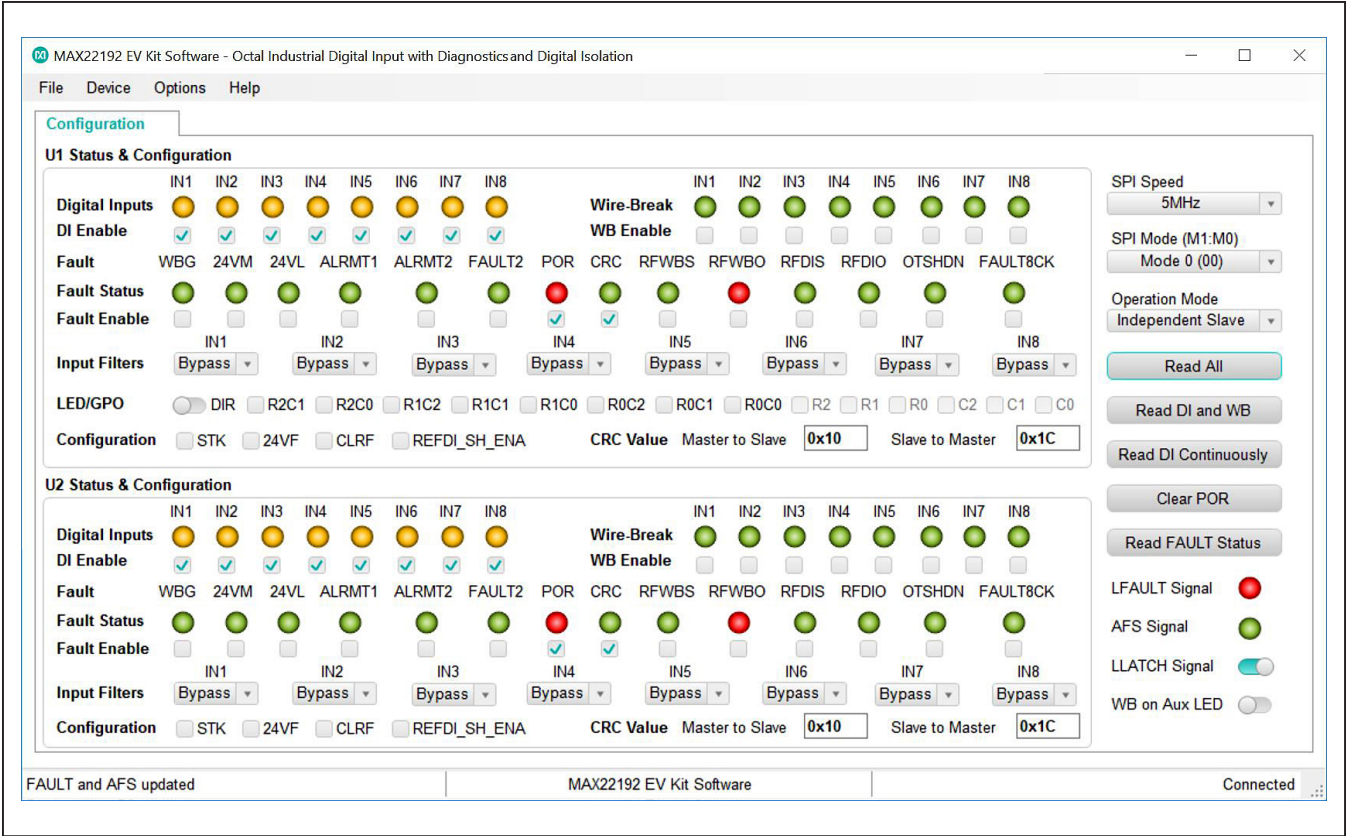

Figure 2. MAX22192 EV Kit Software Startup Window
- 11) Once the hardware is ready to use, launch the EV kit software by opening its icon in the **Start | Programs** menu. During the EV kit software launch, two message boxes are shown to indicate the default operation mode (independent slave mode), and U1 and U2 SPI Mode (Mode 0). Click **OK** to close the message boxes. The EV kit software appears as shown in Figure 2.
When the MAX22192 EV kit software starts, it automatically detects if the EV kit is connected to a PC and indicates it in the status bar at the bottom edge of the GUI. If the software does not recognize the USB2PMB2# adapter board, make sure that the software and all drivers are properly installed, check the USB connection, and go to the **Device** menu and select the **Search for Hardware** option. When the EV kit is properly connected, the MAX22192 (U1) and MAX22190 (U2) devices are read and all controls are updated (see Figure 2).